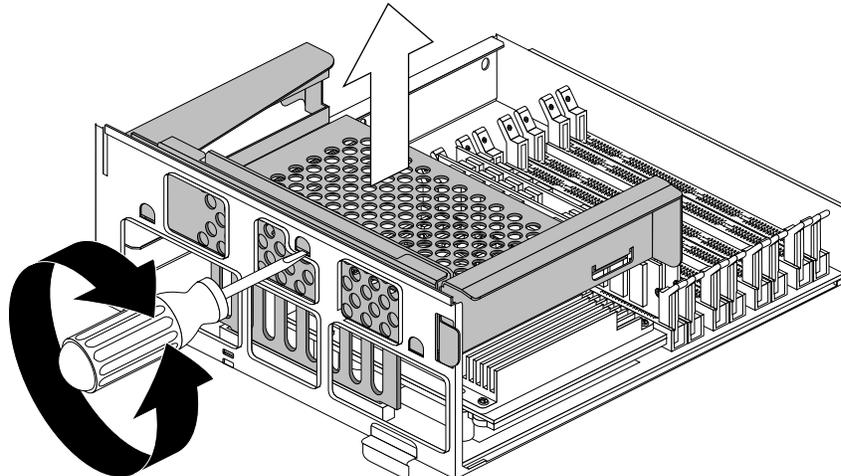

Figure 1-12 Removing the PCI Tray
- Insert a flat-head screwdriver (the screwdriver that comes with the shipment is reversible) in the small opening shown in Figure 1-12. Use a twisting motion to release the PCI tray connector from the slot on the system module. Then use an up and down motion to release the PCI tray.